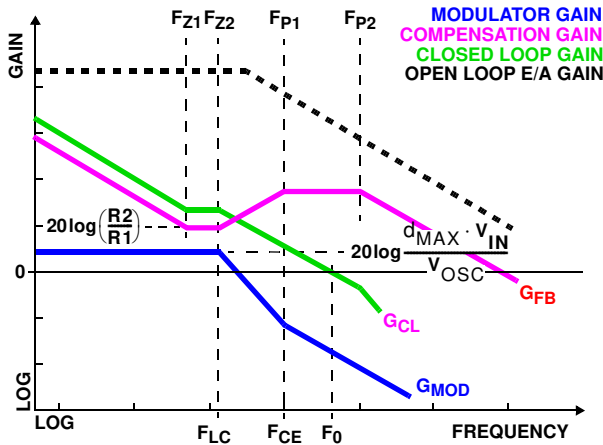

FIGURE 23. ASYMPTOTIC BODE PLOT OF CONVERTER GAIN
Figure 23 shows an asymptotic plot of the DC/DC converter's gain vs. frequency. The actual Modulator Gain has a high gain peak dependent on the quality factor (Q) of the output filter, which is not shown. Using the above guidelines should yield a compensation gain similar to the curve plotted. The open loop error amplifier gain bounds the compensation gain. Check the compensation gain at FP2 against the capabilities of the error amplifier. The closed loop gain, GCL, is constructed on the log-log graph of Figure 23 by adding the modulator gain, GMOD (in dB), to the feedback compensation gain, GFB (in